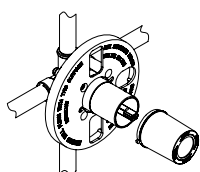

Fig .3
B. Remove the Tub & Shower cap before installing escutcheon (see Fig. 3 ).